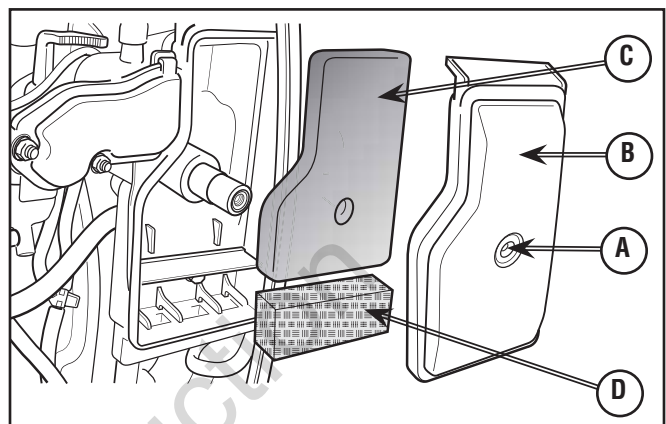

Figure 7
2. Loosen air cleaner cover screw (A, Figure 7) and remove air cleaner cover (B).
3. Carefully remove foam air cleaner (C).
4. Carefully remove breather filter (D).